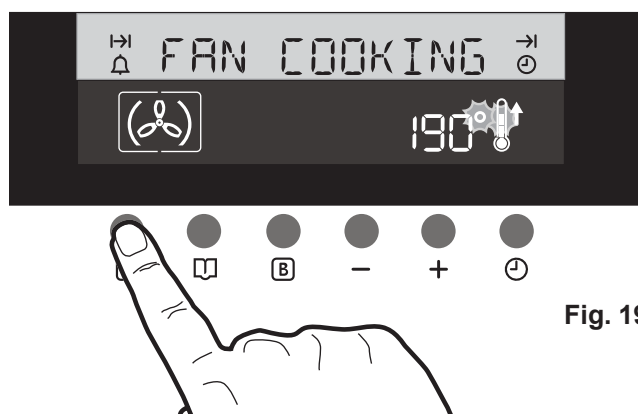

Fig. 19
5. If you press the "Cooking Function" button , the temperature display reverts to the selected temperature and symbol "" flashes for 5 seconds (Fig. 19). During this interval, you can adjust the temperature setting by pressing button "**-**" or "**+**".